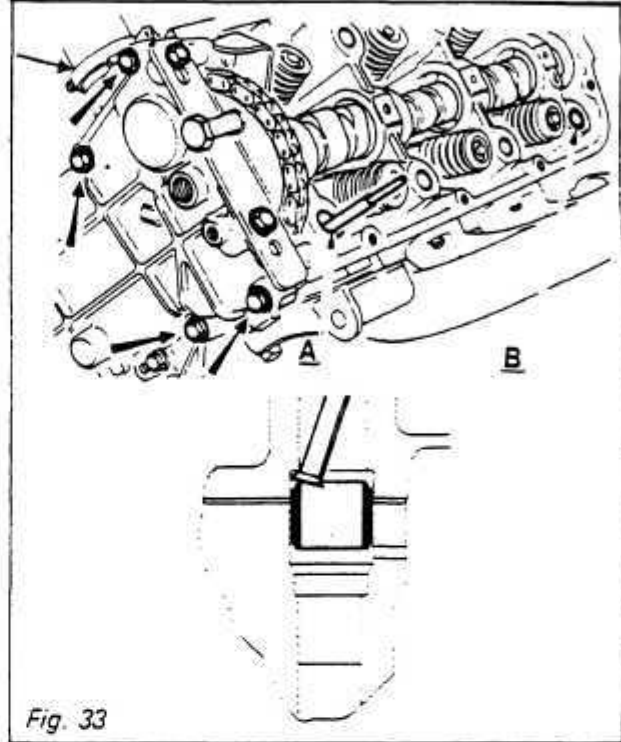

Fig. 33
Press the locating roll pins down at (A) and (B) using an old pushrod. (Fig. 33)